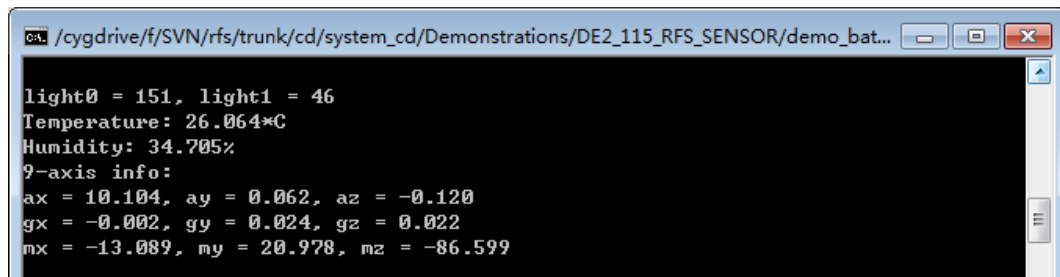

Figure 4-37 Report measured sensor values on DE2-115
7. The Nios II terminal will show the measured sensor value as shown in **Figure 4-37**.
6. The Nios II terminal will show the measured sensor value as shown in **Figure 4-37**.